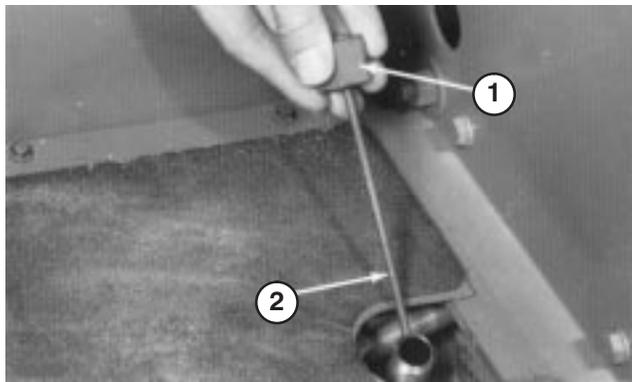

Figure 23
2. Unscrew dipstick cap (Fig. 23) from the filler neck and wipe it with a clean rag. Screw dipstick cap finger tight onto filler neck. Unscrew the dipstick and check level of oil. If level is not within 1/2 inch (13 mm) from the groove in the dipstick (Fig. 23), add enough oil to raise level to groove mark. **DO NOT OVERFILL** by more than 1/2 inch (13 mm) above groove.